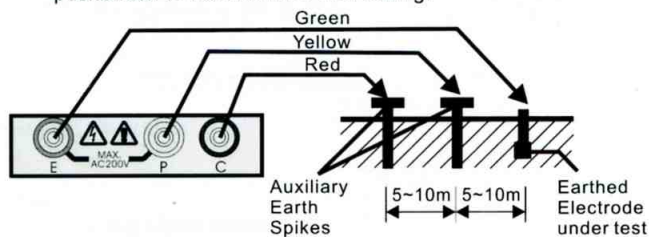

Fig.1
(1) Connect green, yellow and red test leads to instrument terminals E, P and C with auxiliary earth spikes P1, C1 stuck into earth "IN A STRAIGHT LINE".(Fig. 1)
(2) Rotary the function switch to suitable range then press the pushbutton to test and take the reading.
(6) Since measuring current is as low as 2mA, the earth leakage breaker (ELCB) does not trip even if the earth side of the commercial power supply with an ELCB is used.
*Follow the proper connection such as Fig.1 the LED(red) indicator will lit. This proves a correct current circulation is under its operation.